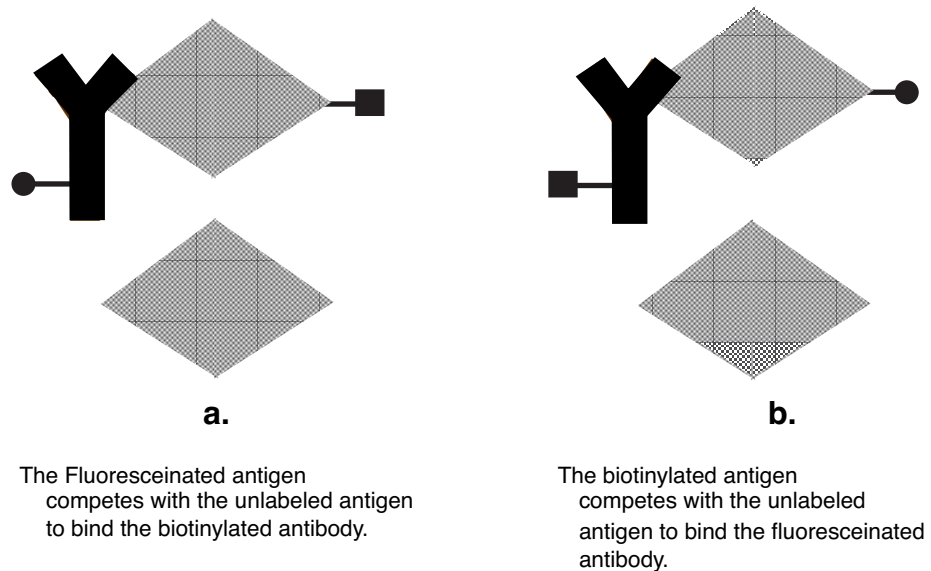

Figure 14-1: Measuring an Antigen
- When measuring an antigen by a competitive assay, the two configurations are shown as follows (Figure 14-1):